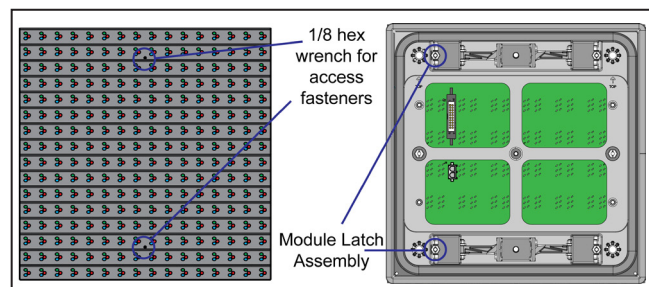

Figure 8: Module Latch Locations
2. Locate the latch access fasteners on the module as shown in **Figure 8**. One is centered near the top and one is centered near the bottom.